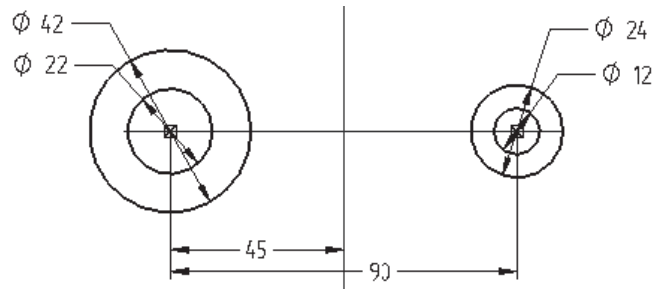

Figure 5-67 Profile for the base feature
- Add the required relationships and dimensions to the sketch, as shown in Figure 5-67.